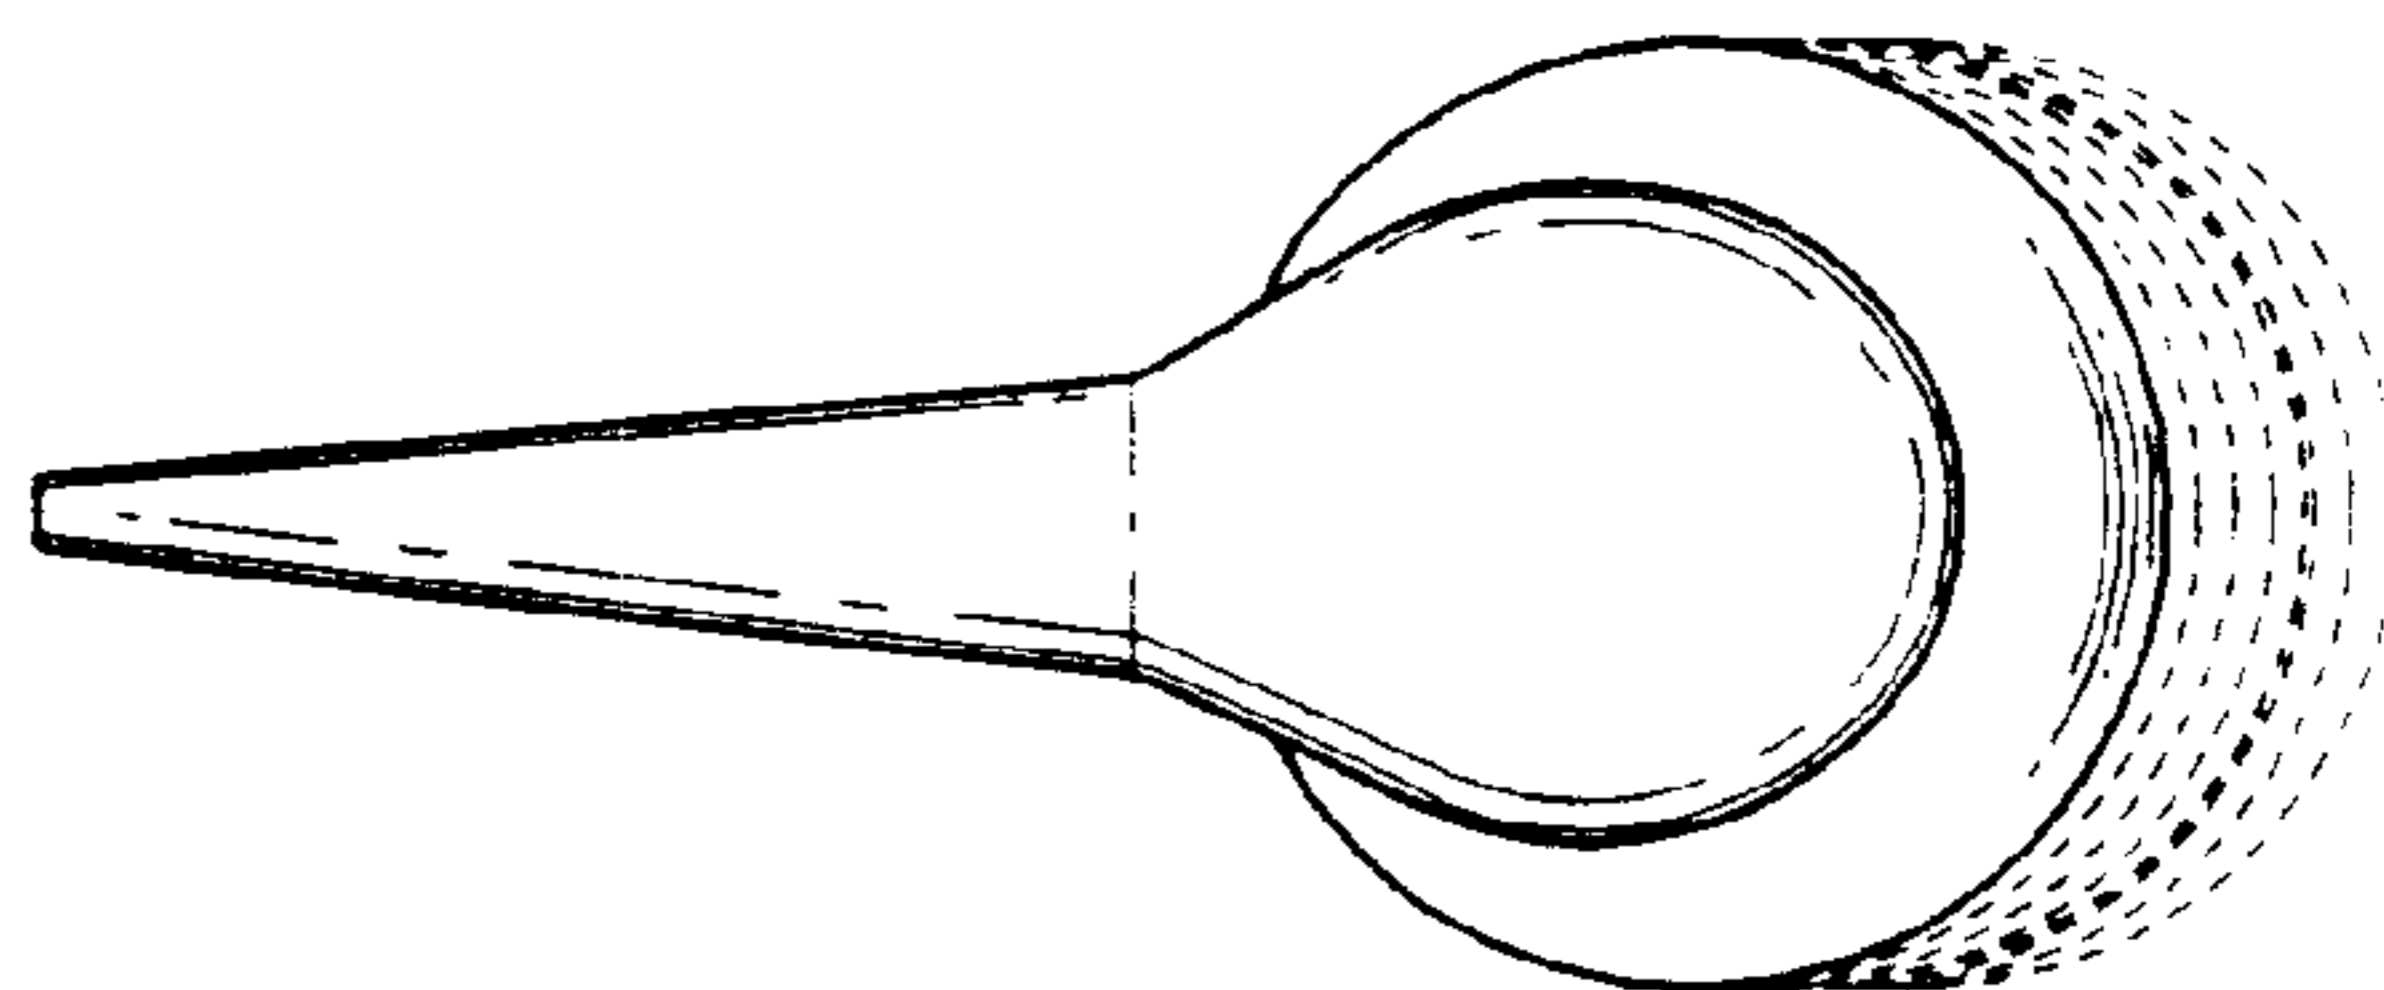

FIG. 12
- FIG. 12 is a top plan view thereof;